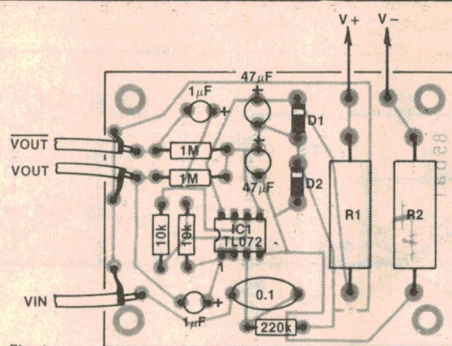
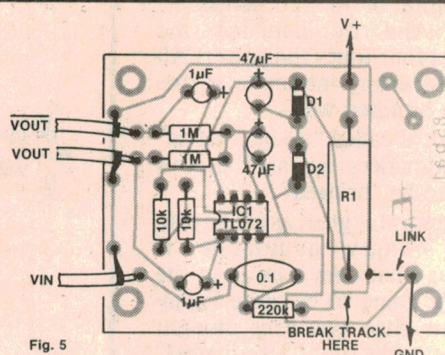

Fig. 4
Fig. 5
Fig.4 shows the PCB layout to be used with amplifiers having dual supplies while Fig.5 shows the layout for amplifiers with a single supply rail.
resistor and connection of the negative supply point to the printed circuit board earth connection. It will also be necessary to modify the printed circuit layout slightly, as shown in Fig.5.
As noted above, the Bridge Adaptor is laid out on a compact printed circuit (PC) board measuring 69 × 54mm and coded 85ba1. This is easy to assemble, a job that can be done inside half an hour. Note that the 5W zener feed resistors should be raised off the board by a couple of millimetres as they can get quite hot and may tend to char the PC board otherwise. Fig.4 (or Fig.5) shows how the PC board should be assembled.
Fig. 5: basic circuit of the 6kW power stage of Fig. 4. Note single supply rail (+110V at 60A). Positive and negative output voltages are made possible by transformer coupling to the output. P, Q, R and S are separate drive points.